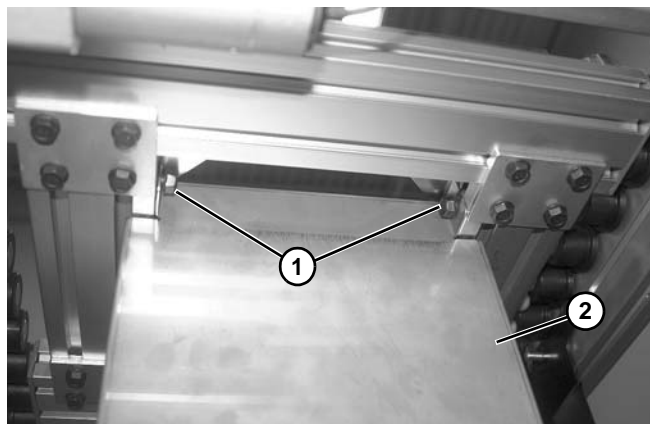

Figure 22
1. Loosen and slide out screws (**Figure 22, item 1**) that secure cylinder guard (**Figure 22, item 2**) over cylinder assembly.